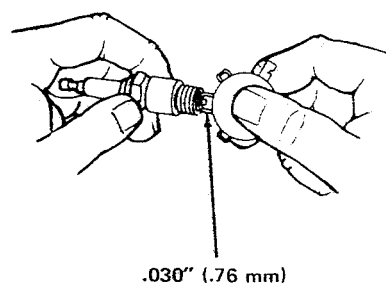

Figure 11. Clean or Replace Spark Plug (100-Hour Care)
1. Engine fails to start.	<ul style="list-style-type: none"> A. Out of fuel. Fill fuel tank. B. Choke lever not on. Move choke to on position and set throttle lever at half speed. C. Spark plug wire off or loose. Install fully. D. Engine flooded. Move choke to off position and try starting engine again. E. Spark plug or points faulty, fouled, or incorrectly gapped. See figure 11 and your engine manual. F. Water in fuel. Drain tank and refill with fresh fuel. G. Old, stale gas. Drain tank and refill with fresh fuel.
2. Engine starts hard or runs poorly.	<ul style="list-style-type: none"> A. Fuel mixture too rich. Be sure choke is off. Clean air filter. B. Spark plug or points faulty, fouled, or incorrectly gapped. See figure 11 and your engine manual. C. Carburetor needs adjustment. See your engine manual.